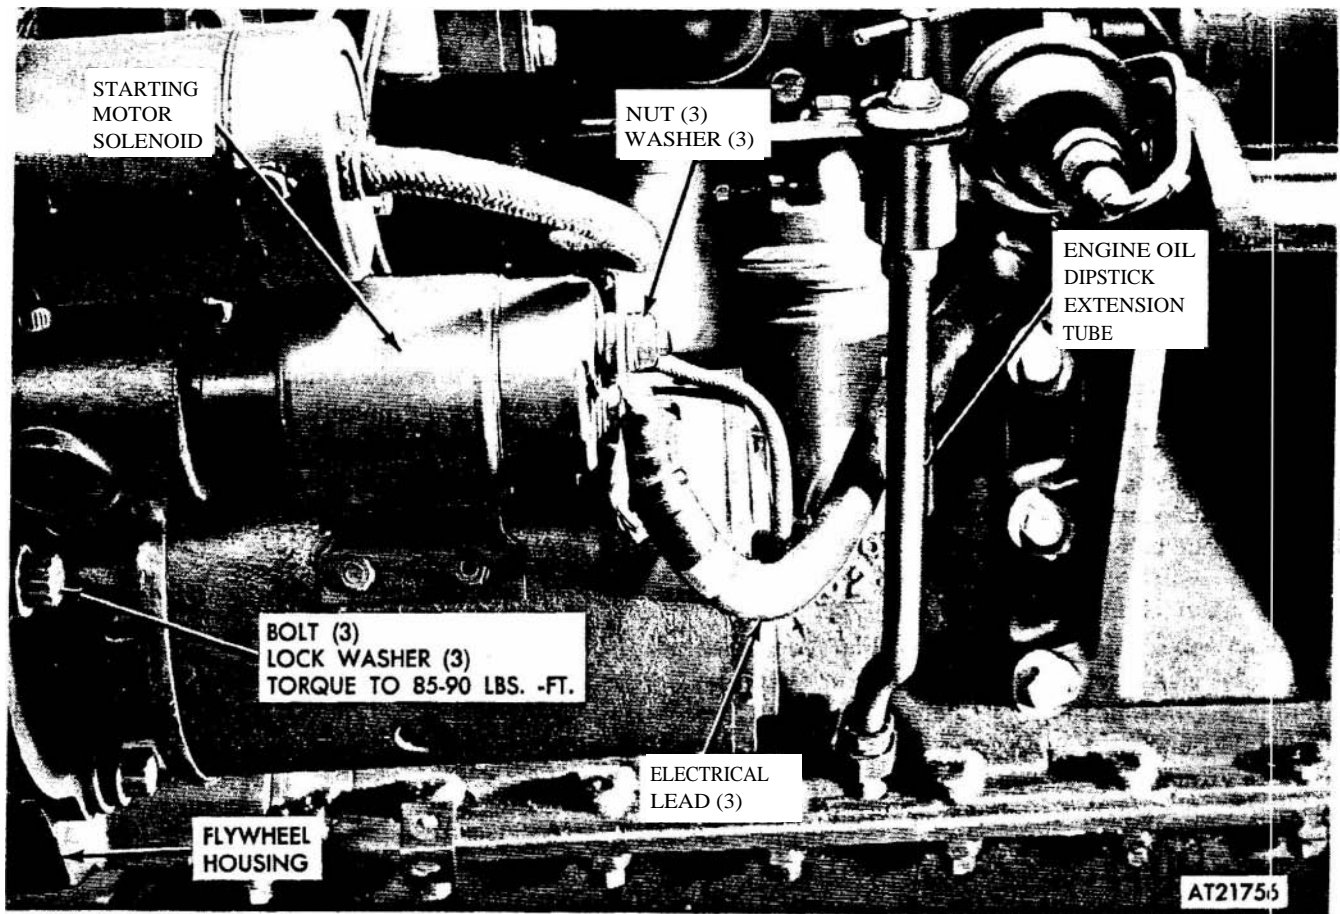

Figure 2.104. Starting motor.
(1) Open and secure engine cover (refer to TM 9-2320-242-10).
(2) Disconnect engine harness from main tractor harness connection to preclude the possibility of shock.
(3) Remove engine oil dipstick and extension tube by unscrewing from cylinder block (fig 2-104).
(4) Disconnect three electrical leads from starter solenoid terminals by removing nuts and washers securing leads to starter studs.
(5) Remove starter from flywheel housing by removing three mounting bolts and lock washers
(1) Attach starter to flywheel housing with three bolts and lock washers. Torque bolts to 85-90 lbs-ft (fig 2-104).